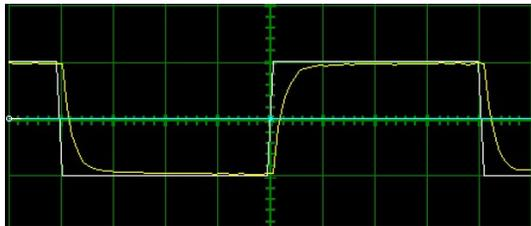

Figure 5 Current Loop Response
- Next, increase the Torque Loop Ki to reduce the steady state error until the response looks similar to Figure 5. The noise and vibration may increase.